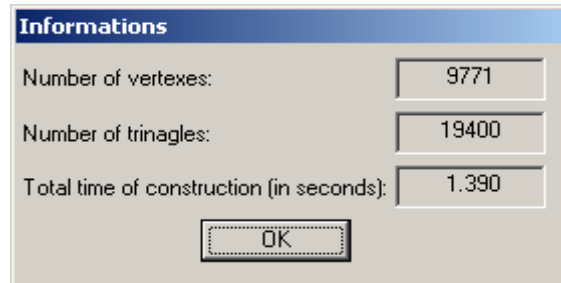

Figure 6: The *Informations* dialog box.
*General Informations* command: It opens the *Informations* dialog (Figure 6).